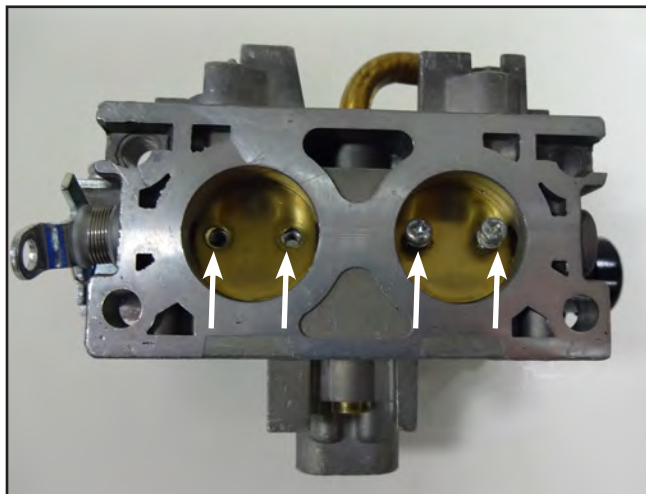

Figure 18
1. Remove the four screws and both throttle discs (Figure 18).